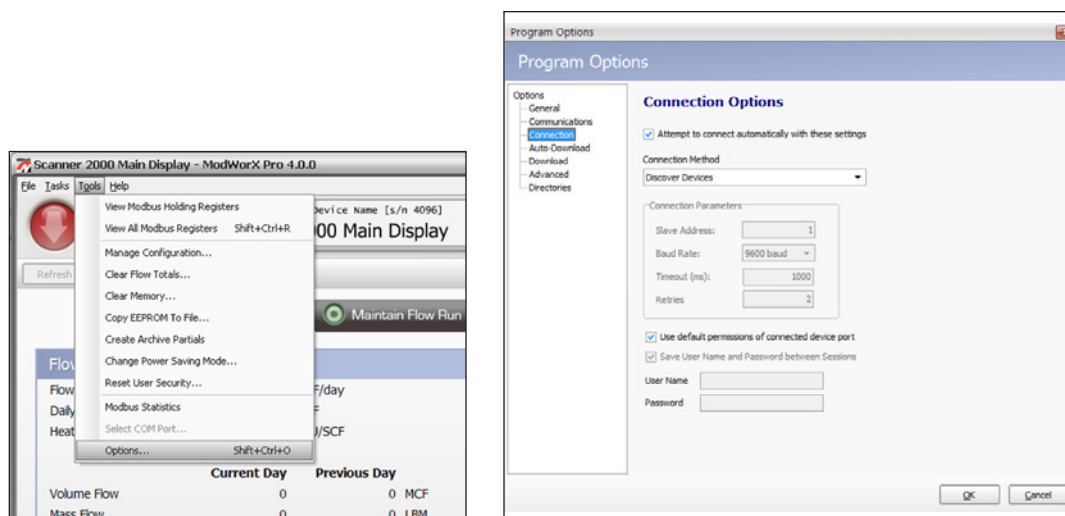

Figure A.20
1. Click **Tools>Options** in the task bar (Figure A.20).